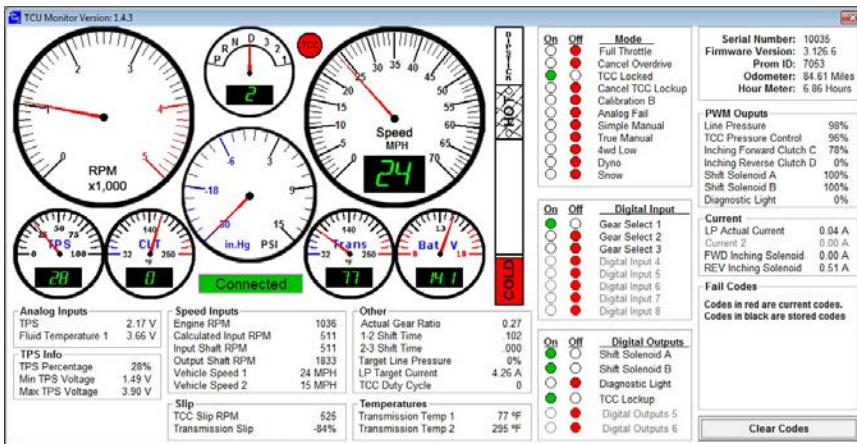

Figure 2
2. The "Monitor" screen will be shown. **Reference Figure 2.**